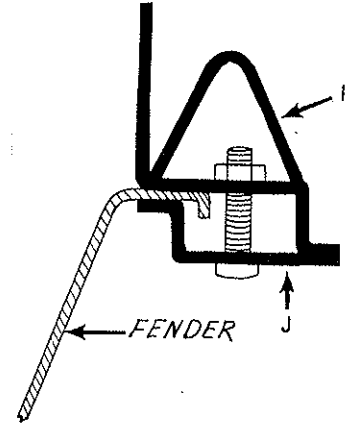

FIGURE 4
11. Attach (I) #722384401 latch to fender as shown. See Figure 4.